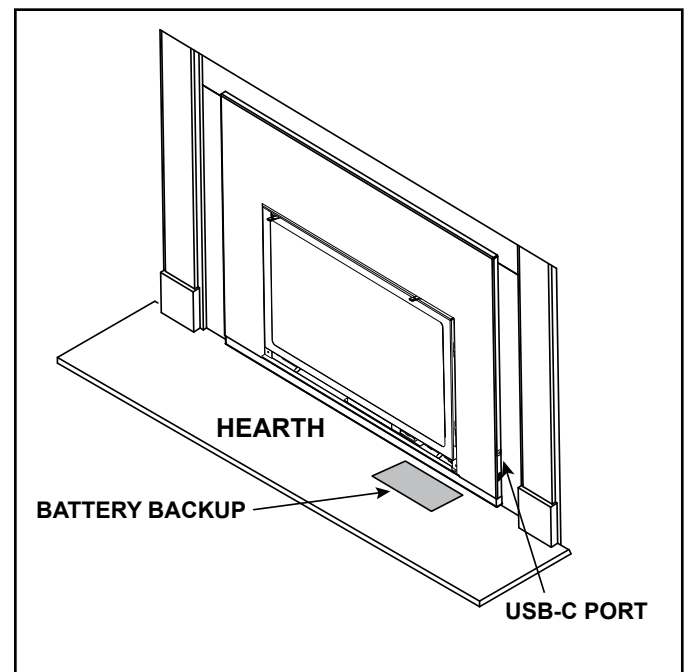

Figure 3.6
5. Locate the USB-C port on the appliance as shown in Figure 3.6. Remove rubber plug from the USB-C port and insert the battery backup power source USB-C connector into the appliance USB-C port. Save USB-C rubber plug for reusing after power has been restored.
6. Place the battery backup power source away from any heat source and hot surface to the extent possible. Excessive heat will reduce the battery life. See Figure 3.6.